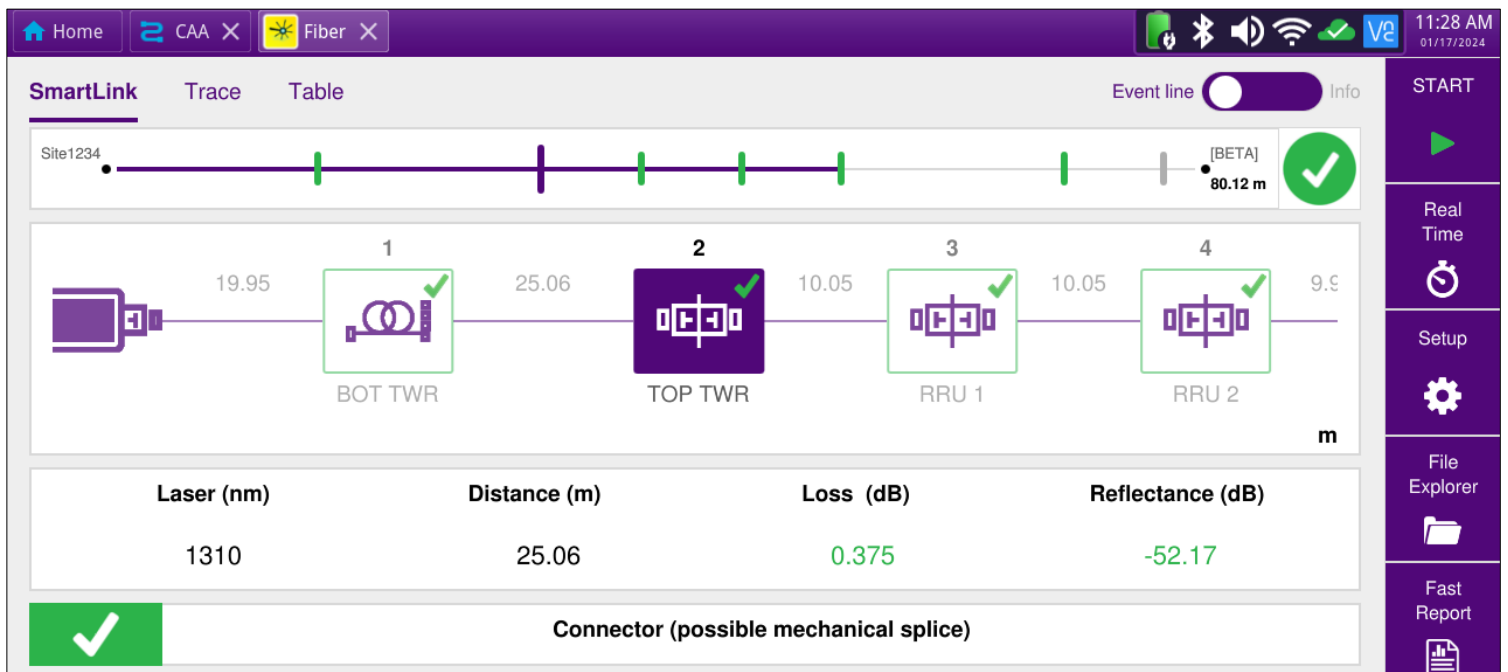

Figure 13: SmartLink View
1. SmartLink view: (see figure 13 below)